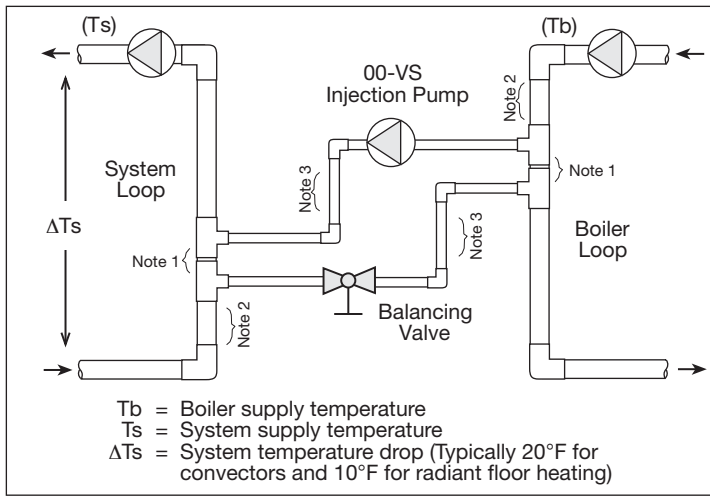

Figure 1
Variable Speed Injection Mixing uses a circulator as a mixing device to maintain a specific temperature in the radiant loop. Typically used in radiant primary/secondary piping designs, the variable speed pump is installed in the “bridge” piping (see Figure 1) between the boiler loop and system loop. The speed of the circulator is modulated in order to inject different rates of hot water from the boiler loop into the cooler system return water. This allows for virtually any water temperature to be supplied to the heating system no matter the load applied within the zone.
When the injection pump is turned off, there must be no heat transfer from the boiler loop to the system loop. In order to avoid this unwanted heat transfer, primary/secondary piping techniques are used as shown in Figure 1.
The Radiant Mixing Block (RMB) eliminates the need for the piping techniques as shown in Figure 1 (see page 2).
1. Determine the design operating temperatures of the system loop and boiler. (T_s and T_b from Figure 1.)